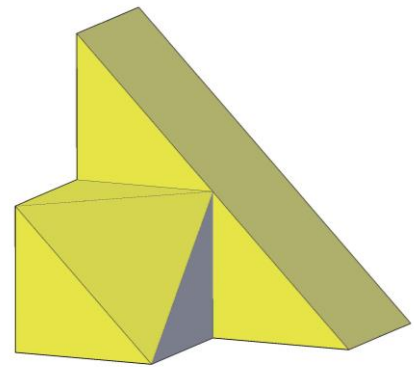
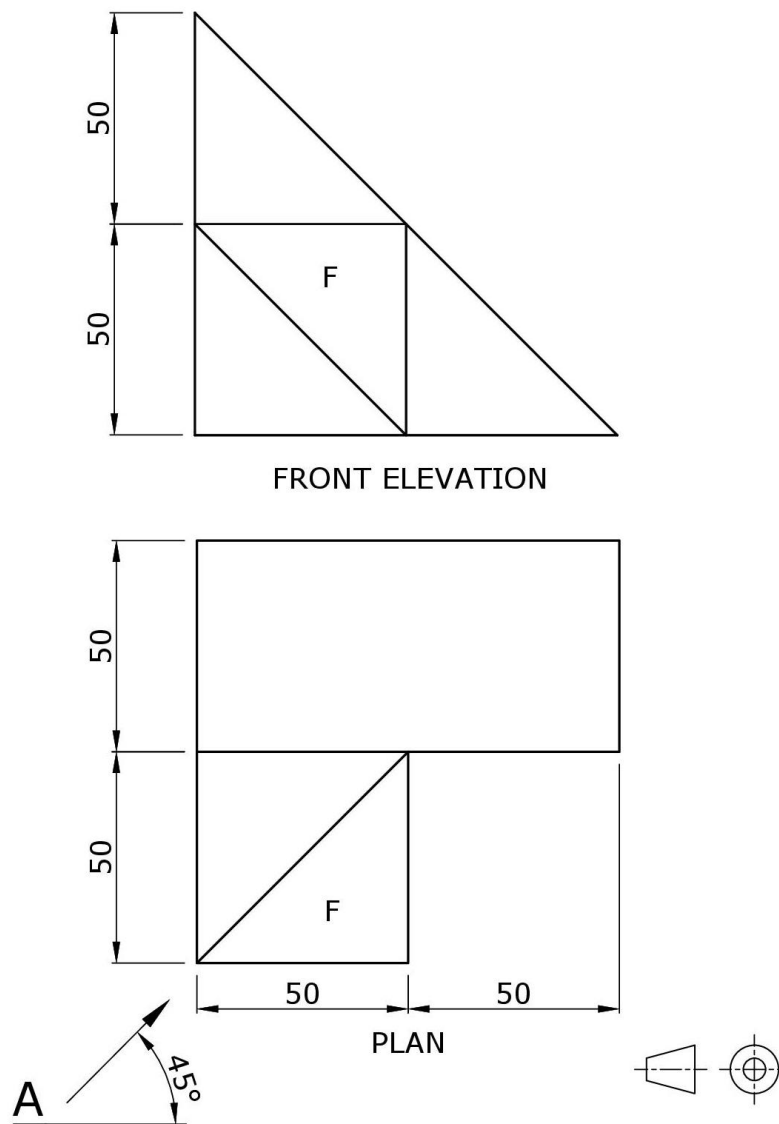

Figure 4a
Figure 4b
An illustration of a machined component is shown in Figure 4a. Two orthographic views of the component are given in Figure 4b.
- copy the views given in Figure 4b; (2)
- project an auxiliary elevation from the direction of arrow **A** to show an edge view of slope **F**; (8)
- project a second auxiliary view of the whole component to show the true shape of face **F**; (8)
- measure geometrically and state the area of face **F**. (2)